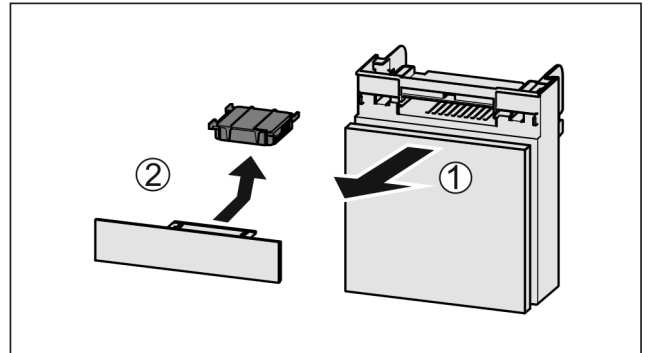

Fig. 88
- Pull out the compartment Fig. 88 (1).
- Remove the carbon filter Fig. 88 (2).